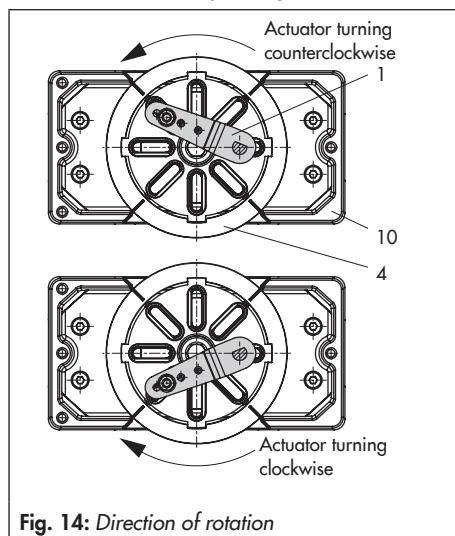

Fig. 14: Direction of rotation
8. Fasten the positioner onto the adapter plate (12).
9. Place the positioner together with the adapter plate on the housing (10) and screw it tight. Taking the actuator's direction of rotation into account, adjust lever (1) so that it engages in the correct slot with its follower pin (Fig. 14).